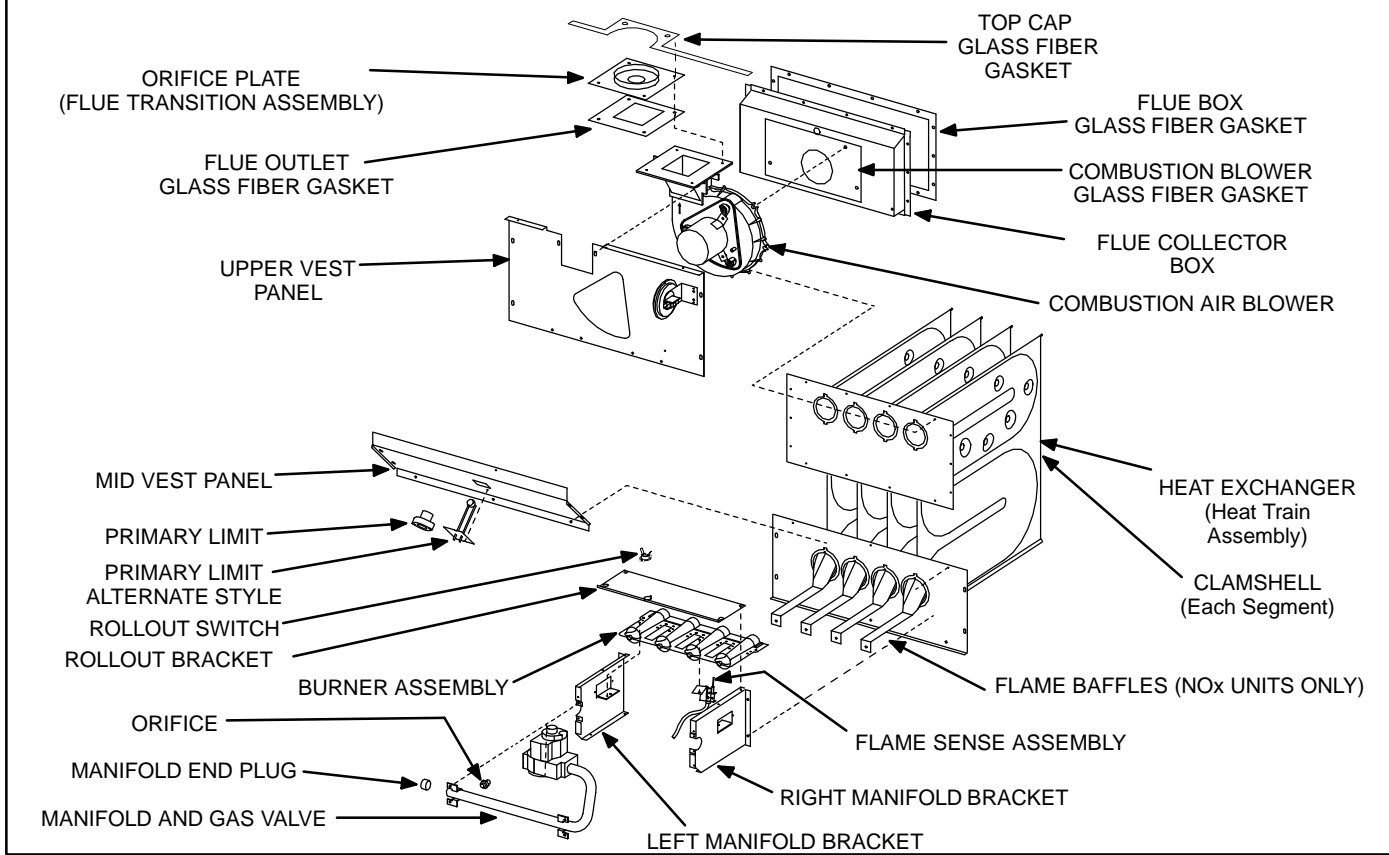

**FIGURE 1**
## I-UNIT COMPONENTS (Figures 1 and 2)
G23(X) unit components are shown in figures 1 and 2. The gas valve, ignition control and burners can be accessed by removing the burner access panel. The blower, blower control and SureLight control can be accessed by removing the blower access door.